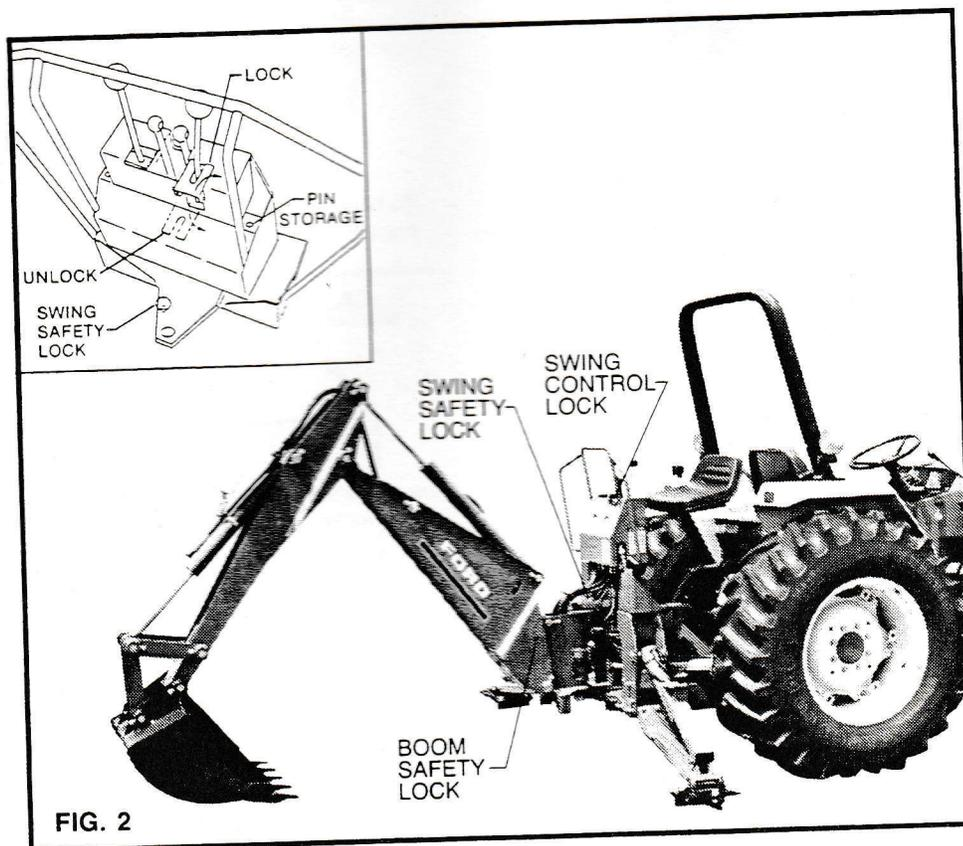

FIG. 2
1. Engage swing safety lock, and swing control lock as shown in Fig. 2, so boom/swing control handle can not be moved right or left.
4. Extend the dipperstick, and lower the boom so that bucket rests solidly on the ground as shown in Fig. 2.